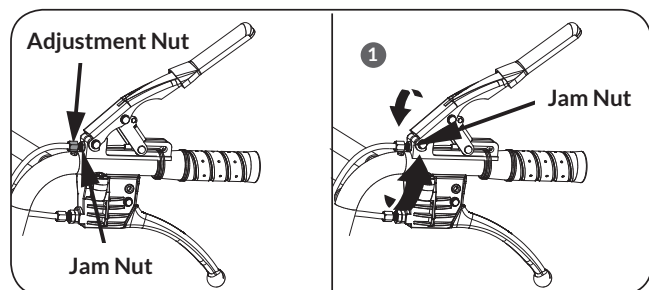

Figure 7a
1. Loosen the jam nut by turning it counter clockwise with 10mm wrench. (see **Figure 7a, Illustration 1**)